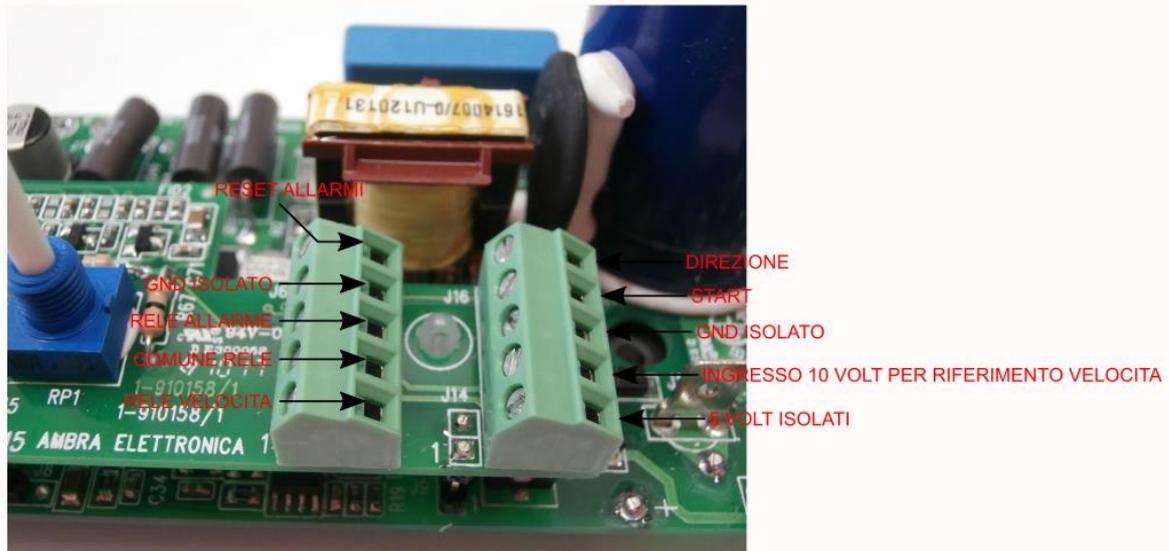

Fig. 1
The other solution to remote the speed control it is by 0-10 Vdc on the terminal “INGRESSO 10 VOLT PER RIFERIMENTO VELOCITA” fig. 1
Motor rotation can be changed through contacts 5 VOLT ISOLATI and DIREZIONE (fig. 1) .
- Insulated output of Open – Collector type to signal alarm (terminals COMUNE and RELE and RELE ALLARME fig1)